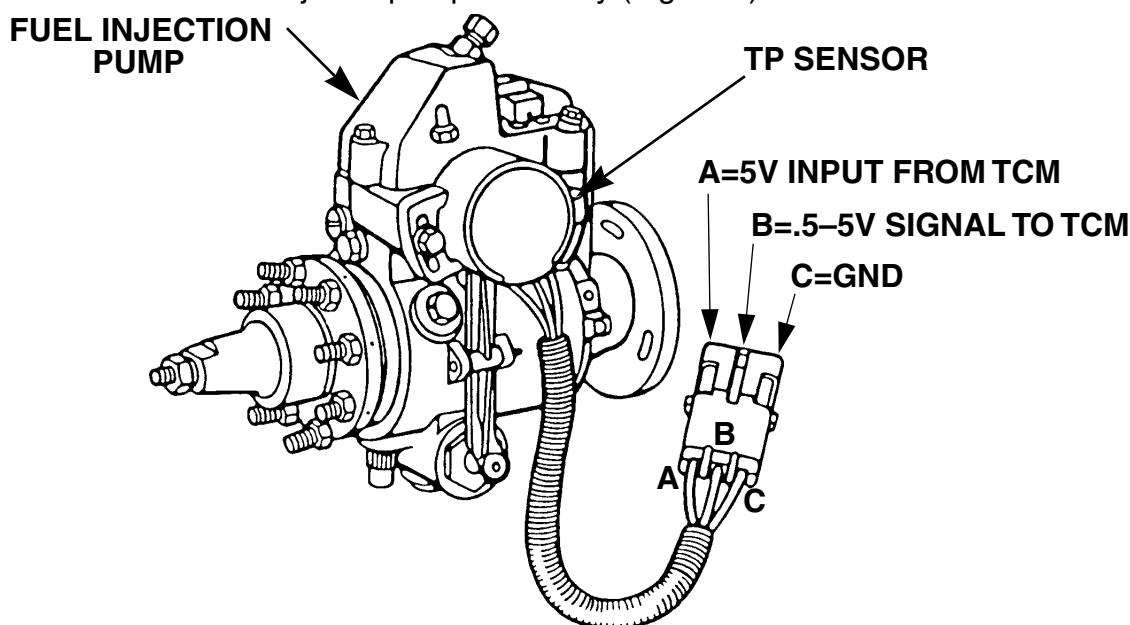

Figure 7. Throttle Position (TP) Sensor.
- Throttle position (TP)
- Transmission Range (TR) Pressure Switch Assembly
Throttle Position (TP) Sensor. The Throttle Position (TP) sensor is a potentiometer, a device for measuring an unknown voltage or potential difference by comparison to a standard voltage. The TP sensor sends a voltage to the TCM, varying from approximately 0.5 volts to approximately 5 volts. This voltage signal to the TCM represents throttle shaft angle. At closed throttle, the signal voltage to the TCM is approximately 0.5 volts. As the throttle shaft angle increases, the signal voltage increases to greater than 4.5 volts at wide open throttle. The TP sensor is attached to the injector pump assembly (Figure 7).